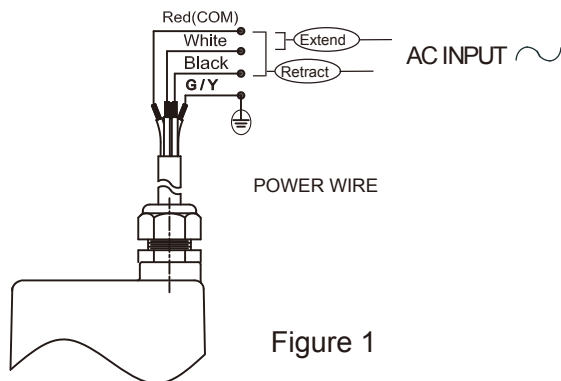

Figure 1
- If the gear ratio is 5:1/10:1/20:1, connect red & white wire to extend, red & black wire to retract, as shown in Figure 1.